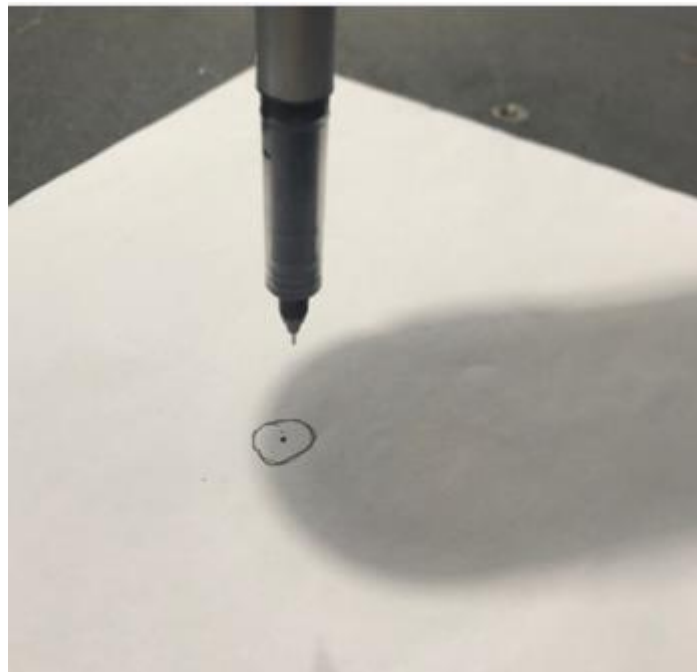

Figure 7.20 Calibration point
- Please prepare an A4 sheet of paper, and draw a small dot as a calibrated point, as shown in Figure 7.20 .